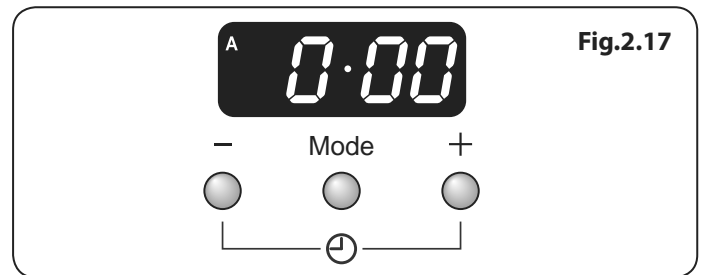

Fig.2.17
1. The LCD clock is shown in (Fig.2.17). Once the cooker is connected and switched on, the [A] symbol flashes in the display.